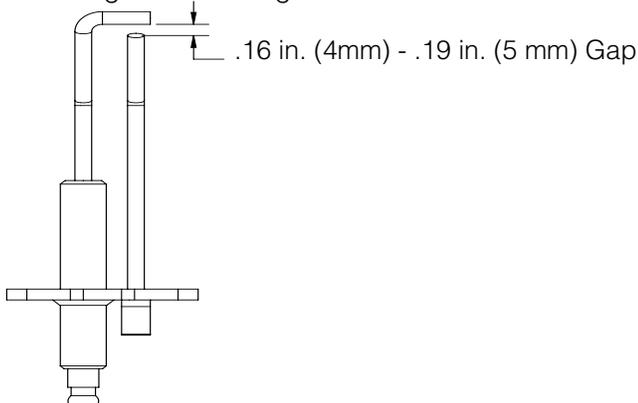

Figure 17-2: Ignitor/Flame Sensor Spark Gap
- C. Verify ignitor/flame sensor spark gap is within range shown in Figure 17-2.
Dirty or damaged ignitor/flame sensor.	Check ignitor/flame sensor gap and distance to burner. See Figure 17-2 and Table 17-4 for distance specification Replace ignitor/flame sensor if necessary.